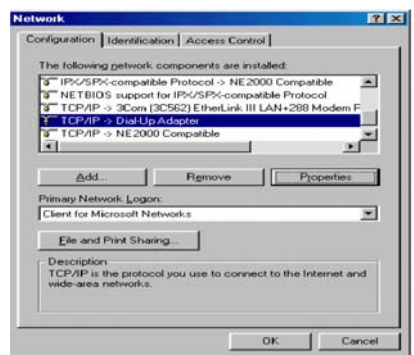

Figure 11 Network Window
4. In the **Network** window within the **Configuration** tab click **Add** (See Figure 11).